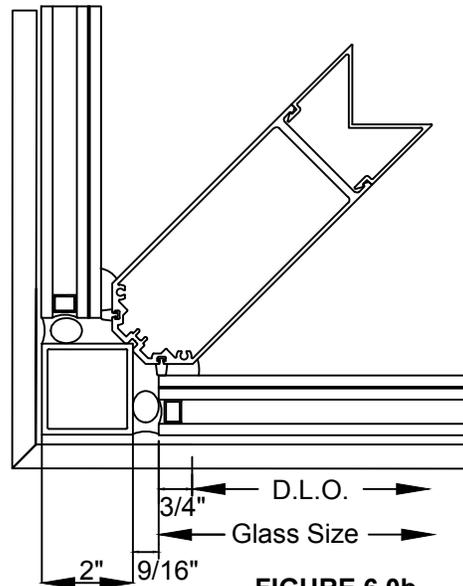

FIGURE 6.0b
6.0 **FIGURE 6.0a** shows the 90 degree captured corner dimensions. **FIGURE 6.0b** shows the 90 Degree SSG corner dimensions. These details are for general reference and do not necessarily reflect all conditions. For specific assembly, sealing and anchoring notes, refer to approved shop drawings.